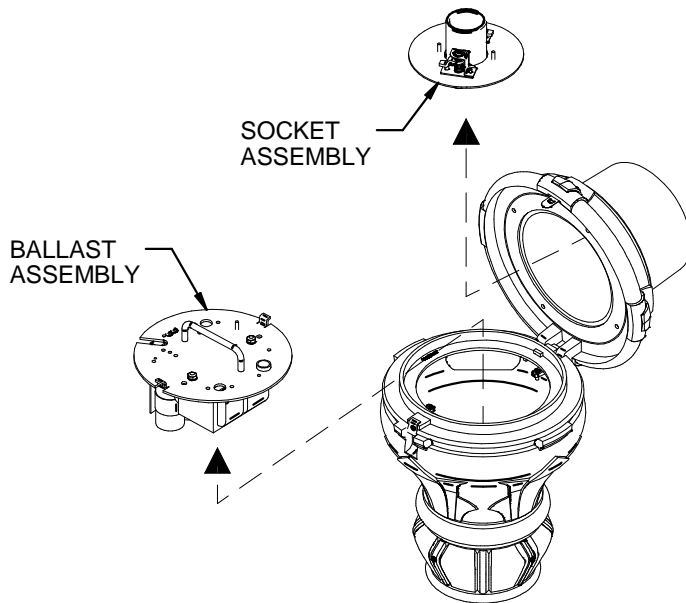

FIG. 2-3
4. REMOVE BALLAST ASSEMBLY. (FIG. 2-3)